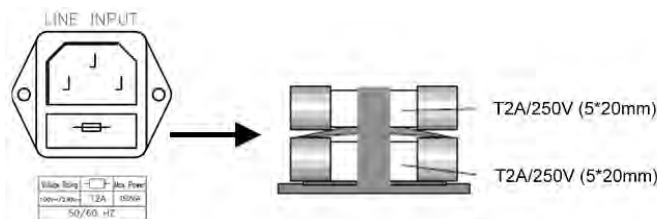

Figure 5-2: AC Line Fuse Holder Location
2. The AC line fuse is located below the AC line socket (see *Figure 5-2*). Use a small screwdriver to remove the fuse holder. Replace the failed fuse with the appropriate type and rating according to your mains voltage.